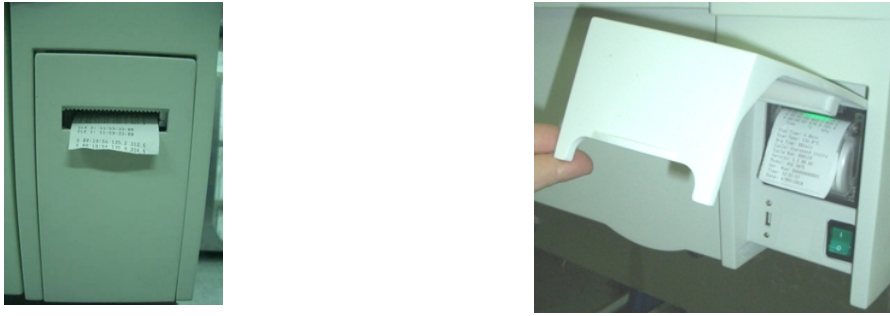

Fig. 2
1. Open the printer's cover door by pulling it at the left bottom (see fig. 2).
7. Close the printer's cover door (3) by pressing corner (2), with the tip end of the paper emerging from the slot (1). See Fig. 2.